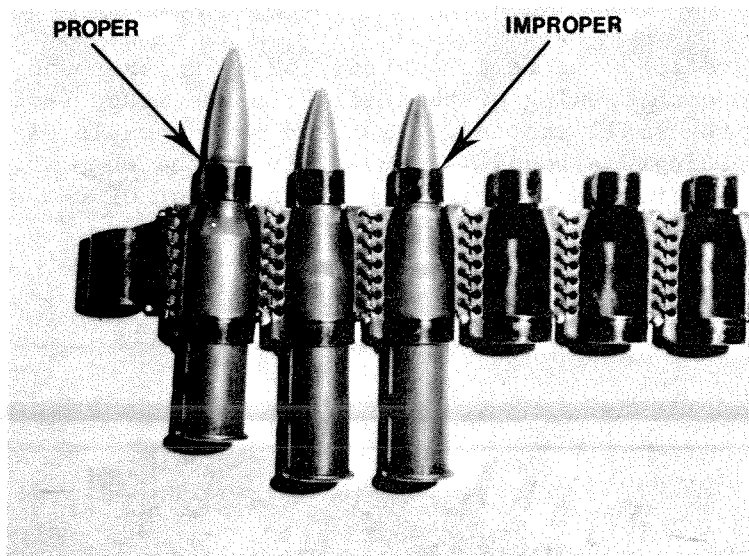

Figure 2-2. Improper insertion of round in belt.
c. An improperly loaded round may cause the belt to feed incorrectly or cause the round to not properly chamber. Either of these actions will cause a stoppage (fig. 2-2).